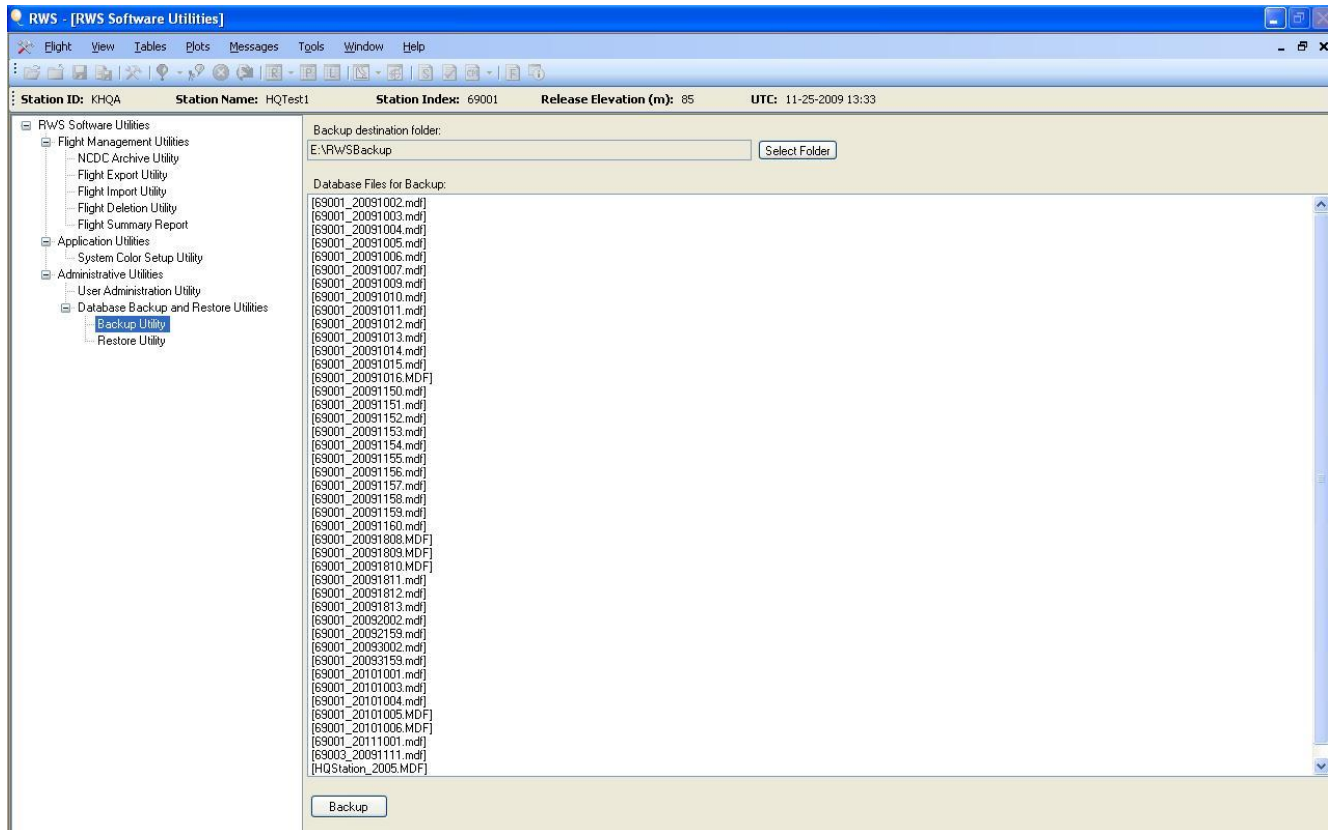

Figure B-2: RRS Backup, Version 2.1
6. For RWS Version 2.1, select **Database Backup and Restore Utilities**, and **Backup Utility** from the *RWS Software Utilities* menu displayed on the left of the screen (Figure B-2). The *RWS Software Utilities* window is updated to display the Backup destination folder and the **Database Files for Backup**. By default, all database files are selected for backed up.